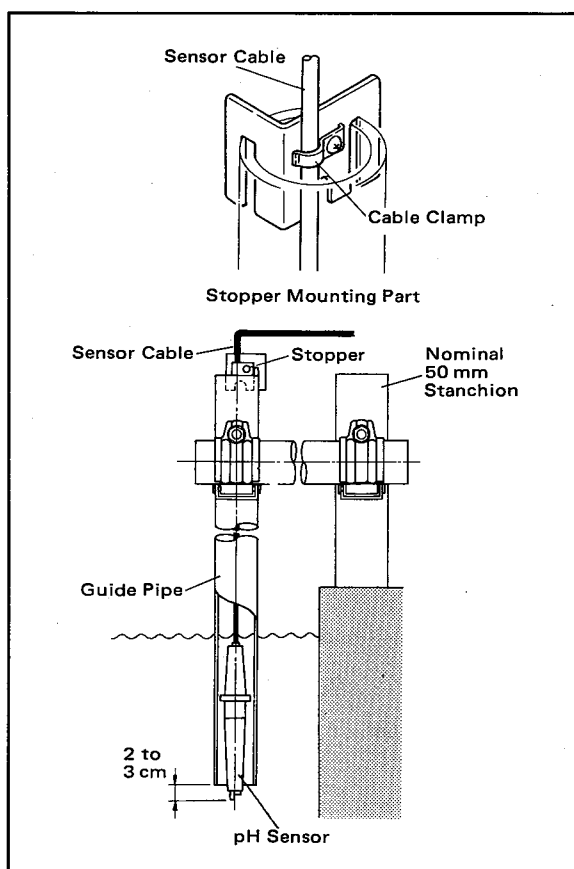

Figure 2-2. Sensor Installation in the Guide Pipe.
- (1) Connect the sensor cable to the associated equipment. Correctly connect the sensor cable as per Section 2-3.
- (2) Attach the stopper supplied with the guide pipe to the sensor cable. Fix the sensor cable by fixing the cable clamp so that the sensor tip projects 2 to 3 cm from the pipe end when the pH sensor is suspended in the guide pipe as shown in Figure 2-2.